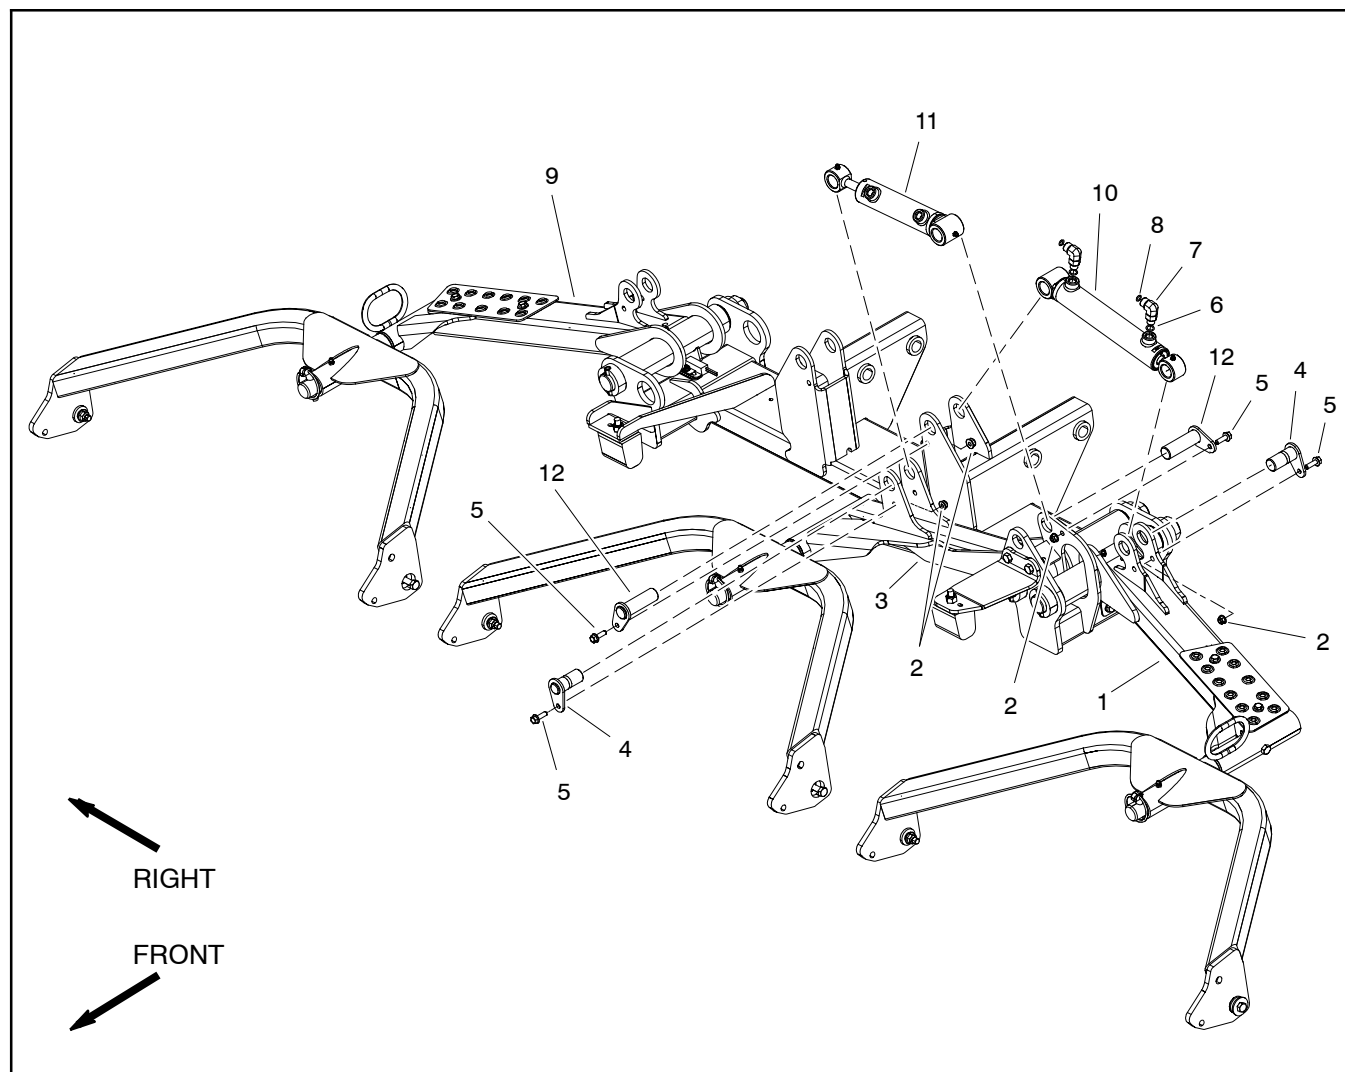

Figure 119
**NOTE:** The lift cylinders for deck 1 and 4 are shown in Figure 119. The lift cylinder for deck 5 is identical to the cylinder for deck 4.
## Removal (Fig. 119)
## Installation (Fig. 119)